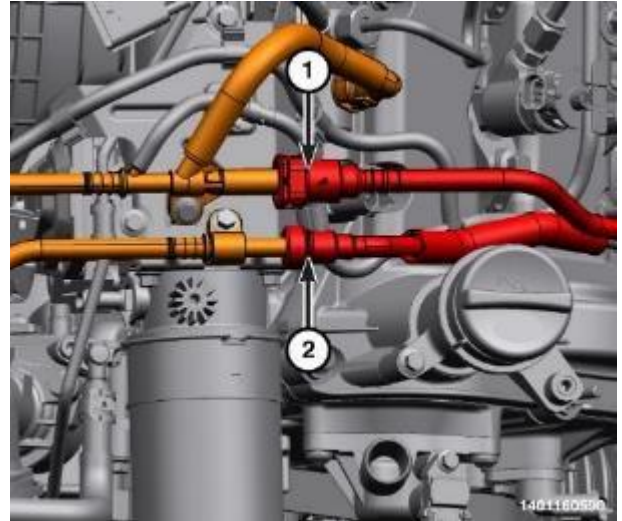

Figure 72 – Fuel Supply and Return Lines
- 124. Connect the fuel supply (2) and return (1) lines (Figure 72).